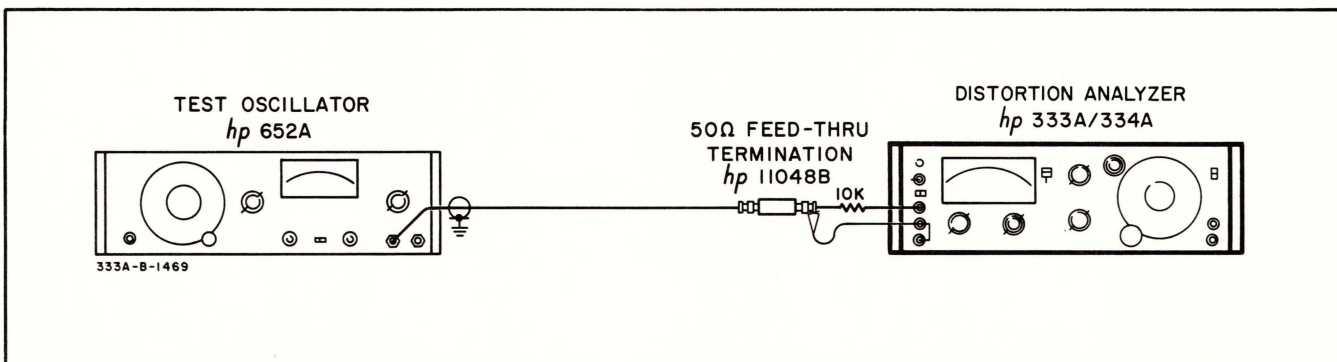

Figure 5-4. Capacitance Check
- a. Connect 50 Ω output of test oscillator, terminated in 50 Ω load, and 10 k Ω resistor to 333A/334A as shown in Figure 5-4. Connect the resistor lead to the INPUT terminal of the 333A/334A, and insert the other lead directly into the 50 Ω load. Connect the ground lead from the 333A/334A to the outer shield of the 50 Ω load; do not use an adapter, as it would add capacitance.